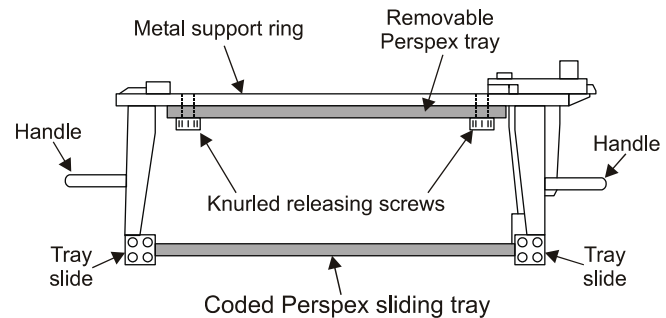

Figure 4. Elekta shadow tray mounting details
- 1 Remove the coded Perspex sliding tray (Figure 4).